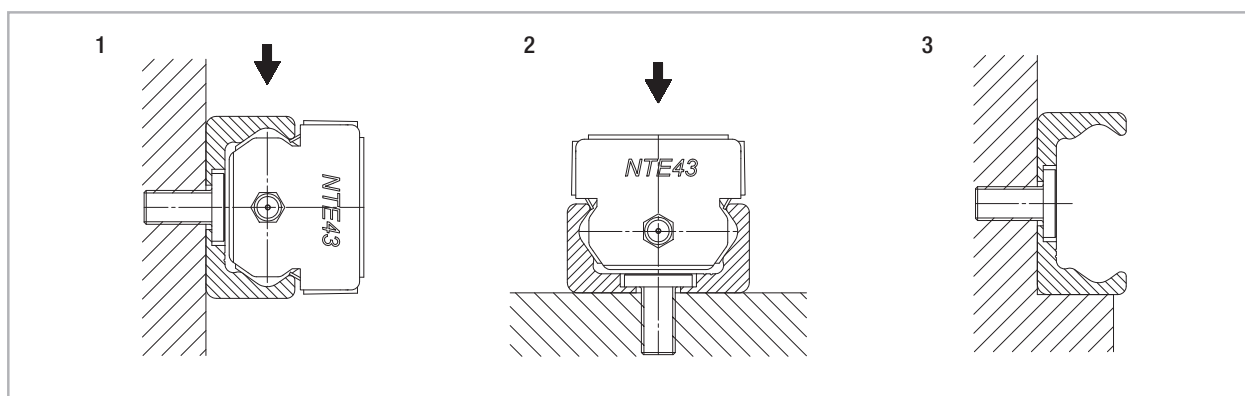

Fig. 101
The T- and K-rails can be installed in two positions relative to the external force. For axial loading of the slider (fig. 101. pos. 2), the load capacity is reduced because of the decline in contact area caused by the change in position. Therefore, the rails should be installed in such a way that the load on the rollers acts in the radial direction (fig. 101, pos. 1). The number of fixing holes in the rail in combination with screws of property class 10.9 is dimensioned in accordance with the load capacity values. For critical applications with vibrations or higher demand for rigidity, a support of the rail (fig. 101, pos. 3) is advantageous.